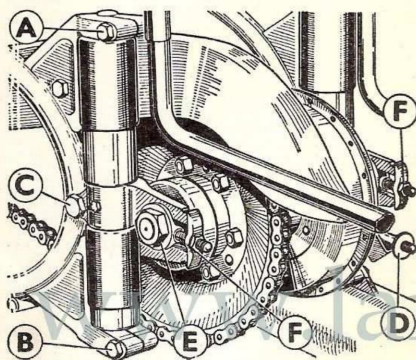

Fig. 14.
2. *Rear brake adjuster (D, Fig. 14).* This must be slackened off as otherwise the brake rod may prevent free movement of the wheel.
3. *The spindle nuts (E, Fig. 14).* These must be released to ensure easy movement of the wheel spindle in the fork ends.